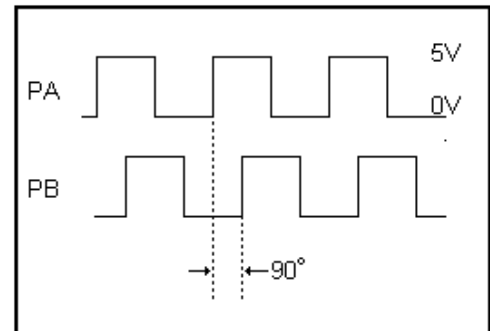

Figure 6-1. PG-X2 Card Inputs / Test Points
6. Turn the motor shaft by hand. As Figure 6-1 shows, there should be pulses on both channels at a +5V level, 50% duty cycle, and they should be separated by 90 electrical degrees (half a pulse).
6. Turn the motor shaft by hand. As Figure 6-1 shows, there should be pulses on both channels, 50% duty cycle, and they should be the inverse of each other (separated by 180 electrical degrees).
- Turn the motor shaft by hand. As Figure 6-1 shows, there should be pulses on both channels, 50% duty cycle, and they should be the inverse of each other (separated by 180 electrical degrees).
7. Turn the motor shaft by hand. As Figure 6-1 shows, there should be pulses on both channels, 50% duty cycle, and they should be the inverse of each other (separated by 180 electrical degrees).
9. Turn the motor shaft by hand. As Figure 6-1 shows, there should be pulses on both channels, 50% duty cycle, and they should be the inverse of each other (separated by 180 electrical degrees).